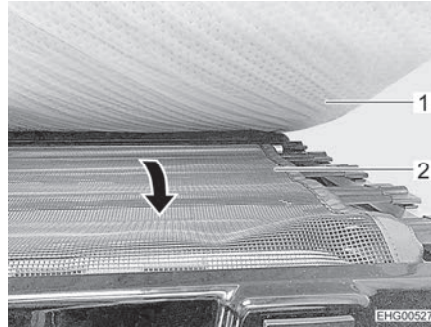

Fig. 62 Safety net
- Pull out the safety net (Fig. 62,2) from under the mattress (Fig. 62,1) and stretch it over the access orifice.